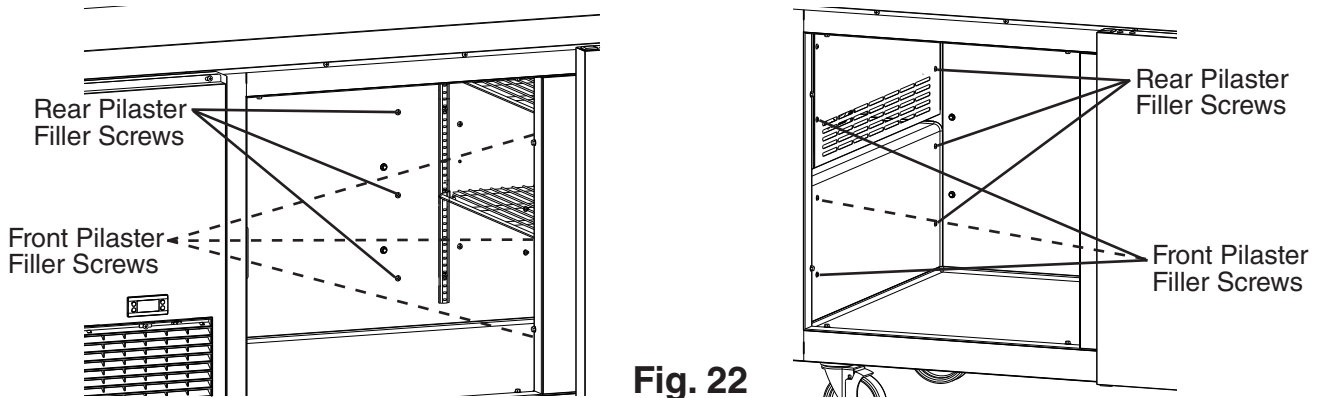

Fig. 22
- 6) Remove the 12 pilaster filler screws from the current drawer section. See Fig. 22.